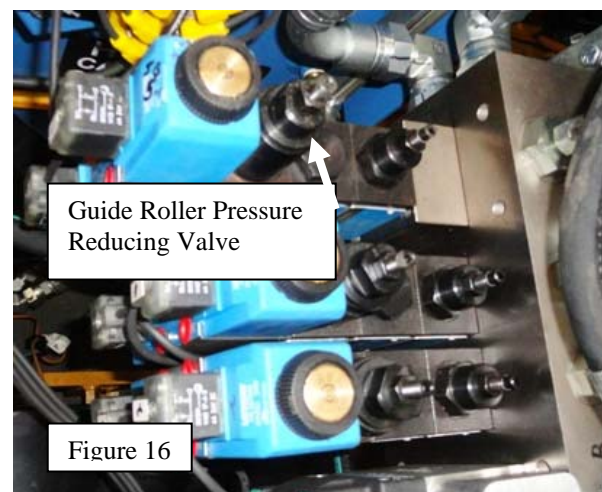

Figure 16
3. If pressure is higher than 500 psi, Loosen guide roller cylinder pressure reducing valve adjusting screw lock nut (Figure 16) turn the adjusting screw counterclockwise out (CCW) until pressure reads 500 psi.
5. If pressure is lower than 500 psi, loosen guide roller cylinder pressure reducing valve adjusting screw lock nut (Figure 16) turn the adjusting screw in clockwise (CW) until pressure reads 500 psi.